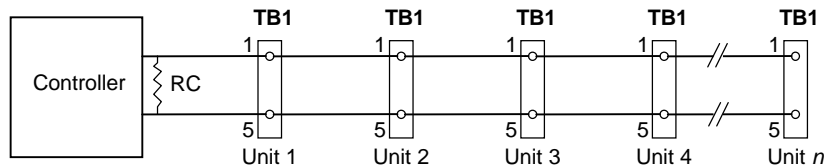

Figure 2-8. Controlling Several 1PCIs Connected in Parallel
1. Connect each unit as shown in Figure 2-8. Refer to Section 2.9.2: Temperature Controller on page 2-4.
3. Connect the remaining units as shown in Figure 2-8.
4. Connect the appropriate impedance matching resistor (**RC**) for your controller across the output terminals of the controller as shown in Figure 2-8. This will assure proper operation of all controllers. **RC** is usually 250Ω or 500Ω.